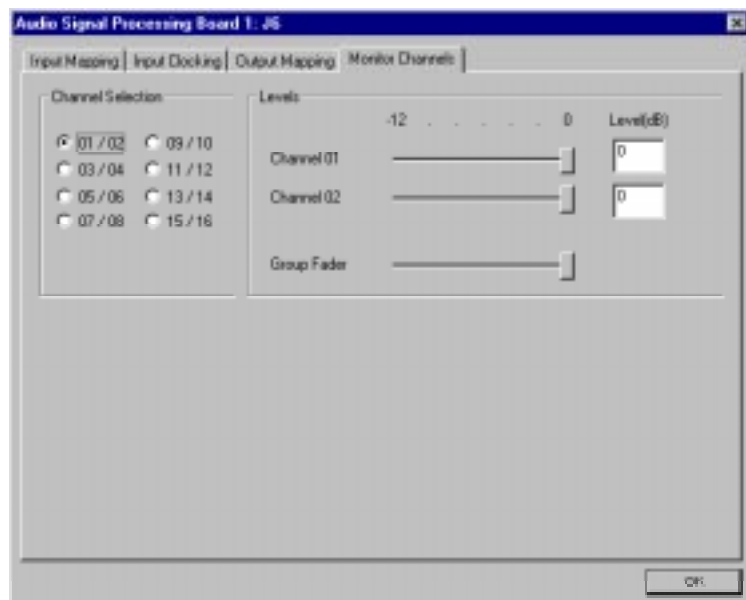

Figure 43. Audio Configuration dialog box, Monitor Channels tab
1. Choose **Option | Audio Configuration Board 1 or 2** or click an ASPB Configuration button. The Audio Configuration dialog box appears (Figure 43).